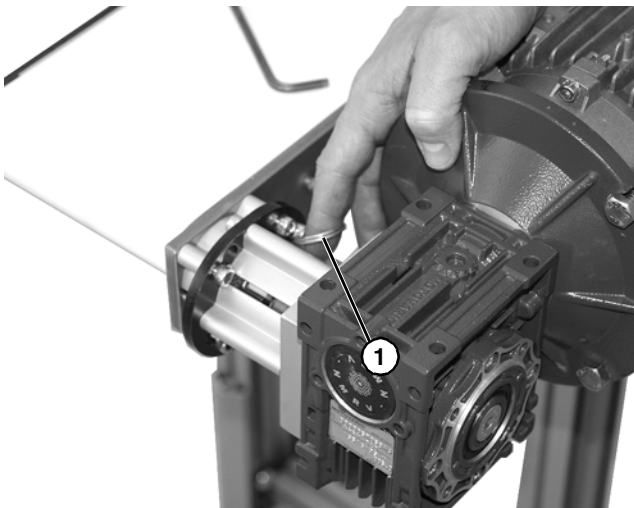

Figure 11
1. Remove quick release pin (Figure 11, item 1).